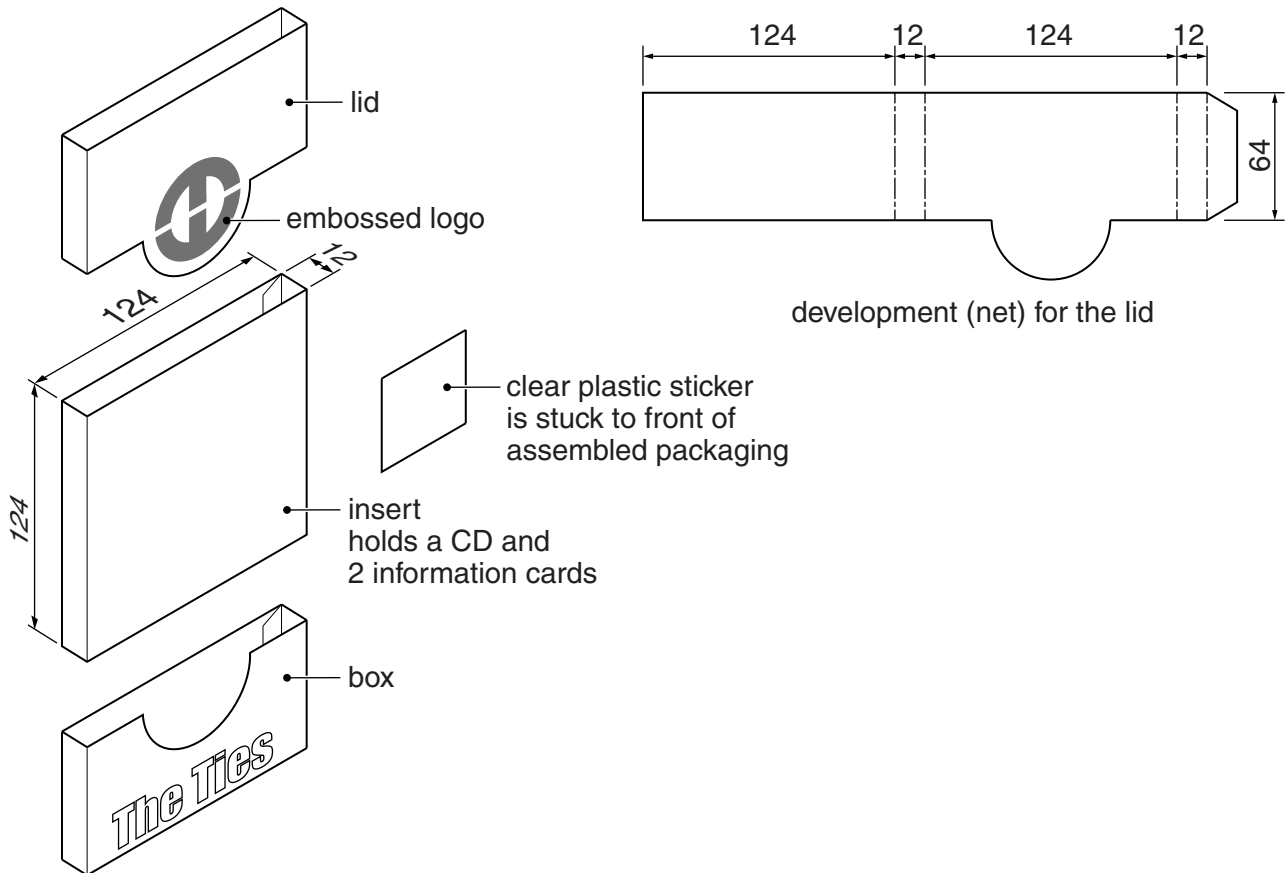

Fig. 6
- 5 Fig. 6 gives details about packaging to hold a CD and two information cards. The packaging consists of a box, lid and insert all made from 500 microns (0.5mm) thick card. A clear plastic sticker is stuck on the front of the assembled packaging.